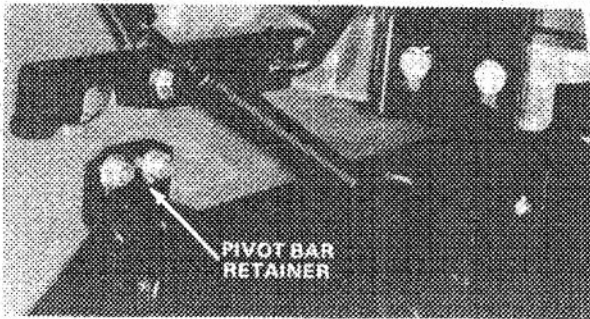

Figure 41
4. If blade tip height is not within 1/8 inch (3 mm), level cutting unit by loosening right hand pivot bar retainer hex nuts and raising or lowering the retainer (Fig. 41).